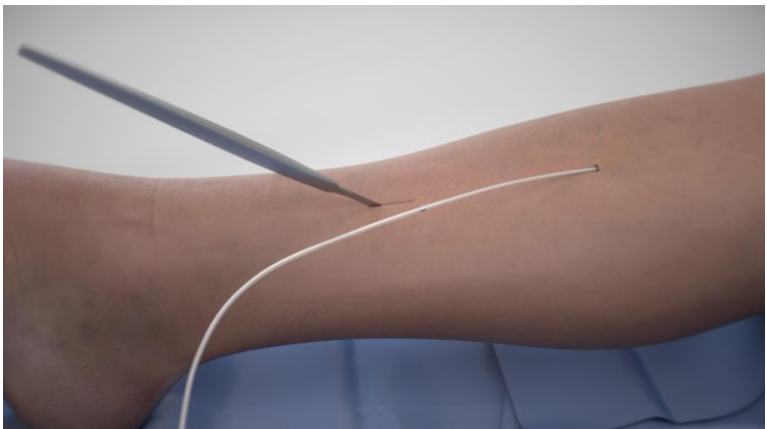

Figure 2
3. Make an incision, about 2 cm. (Figure 2)